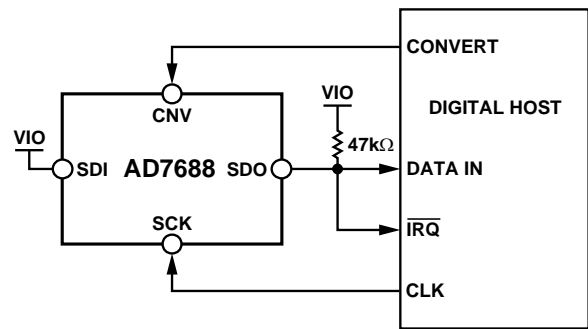
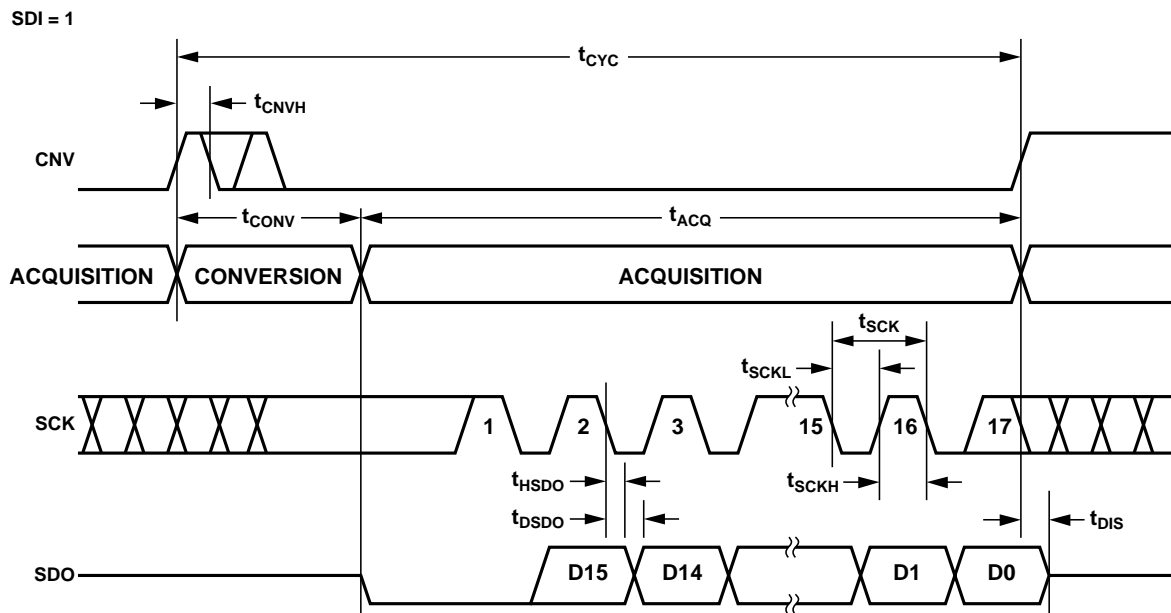
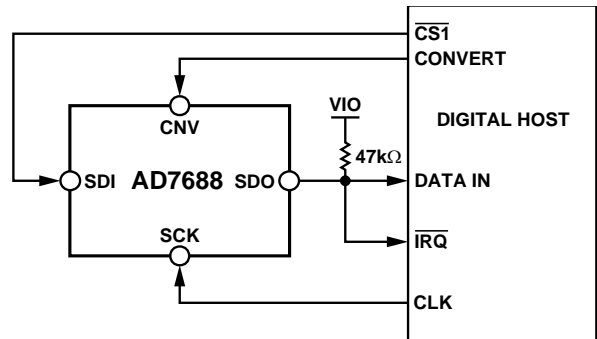
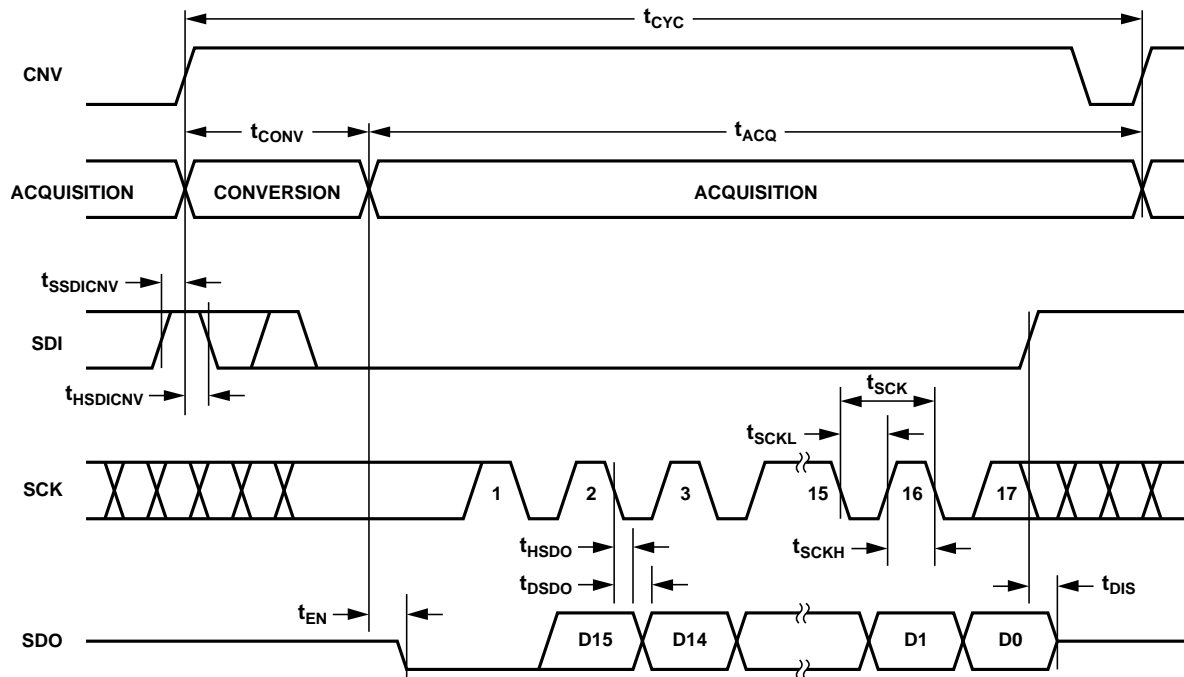

Figure 36.  $\overline{CS}$  Mode 3-Wire with BUSY Indicator Connection Diagram (SDI High)
Figure 37.  $\overline{CS}$  Mode 3-Wire with BUSY Indicator Serial Interface Timing (SDI High)
Figure 40. CS Mode 4-Wire with BUSY Indicator Connection Diagram
Figure 41. CS Mode 4-Wire with BUSY Indicator Serial Interface Timing
- In the  $\overline{CS}$  mode, if CNV or SDI is low when the ADC conversion ends (Figure 37 and Figure 41).
The connection diagram is shown in Figure 36 and the corresponding timing is given in Figure 37.
The connection diagram is shown in Figure 40 and the corresponding timing is given in Figure 41.